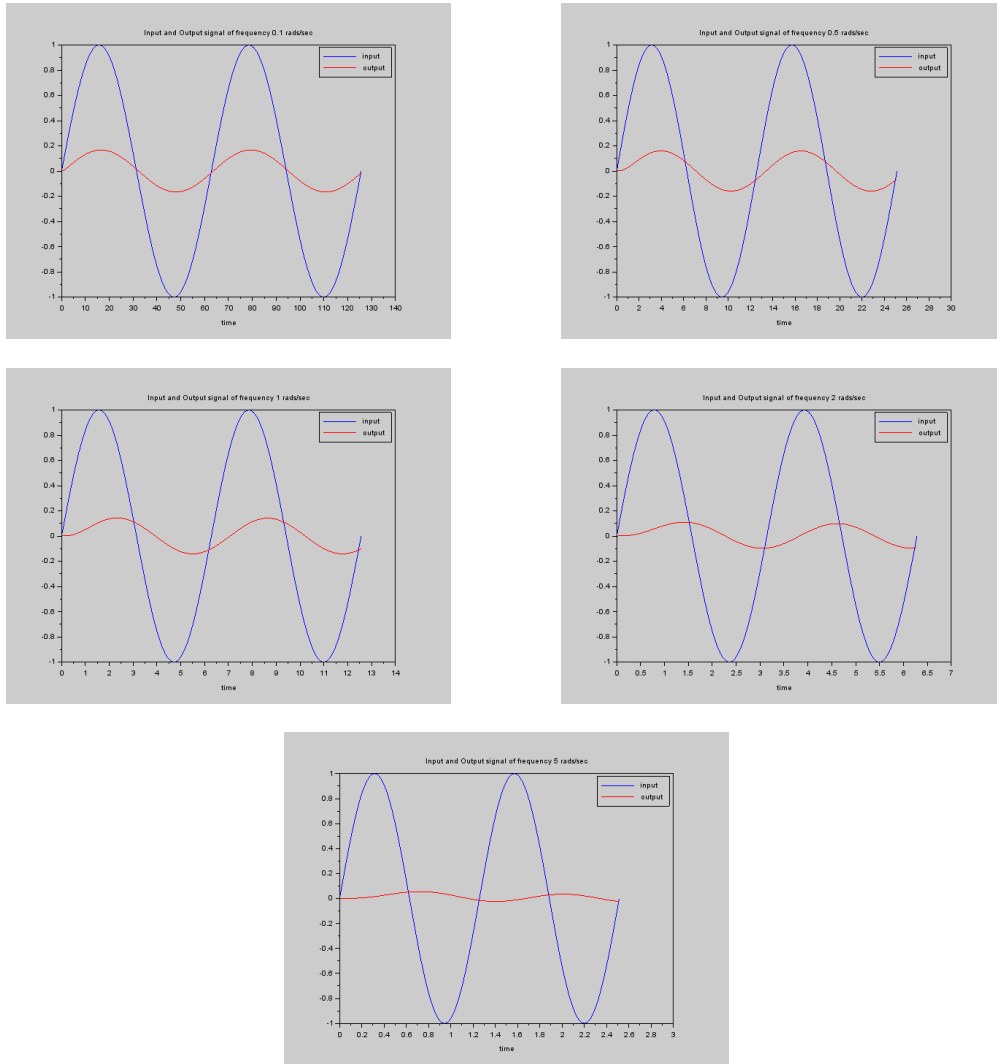
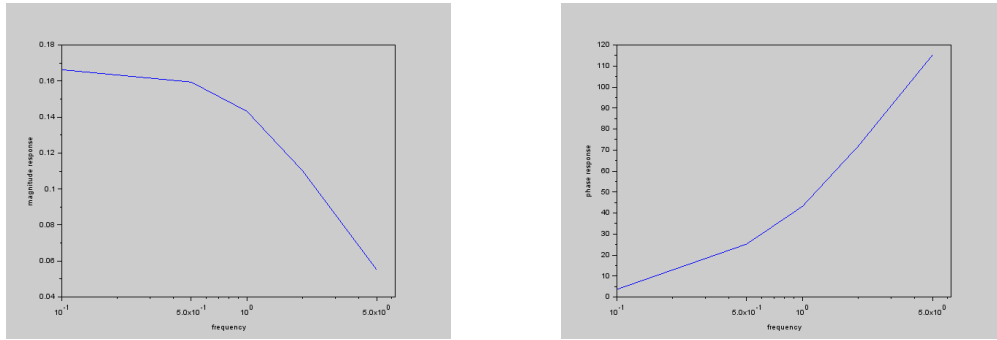

Figure 8: input output signal of different frequencies
Figure 9: input output signal of different frequencies
- (a) For the transfer function $G(s) = 1/(s^2 + 5s + 6)$ the input and output signals for different frequencies is given in Figure 8. The phase response and magnitude response are given in Figure 9